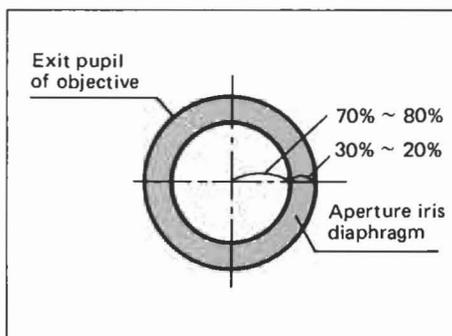

Fig. 16
- 2) Remove the eyepiece, and looking at the exit pupil of the objective through the empty eyepiece tube, adjust the opening of the diaphragm. Generally, it is preferable to stop down the aperture diaphragm to 70% to 80% of the objective N.A. (Fig. 16)